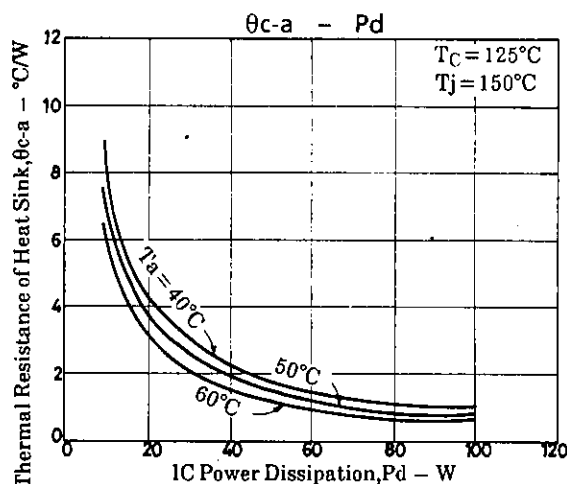

Fig.2 STK4231 II $\theta_{c-a} - P_d$
Fig.2 shows the relation between P_d and θ_{c-a} given from (1) and (3) with T_a as a parameter.
The thermal resistance of a heat sink is obtained from Fig.2.